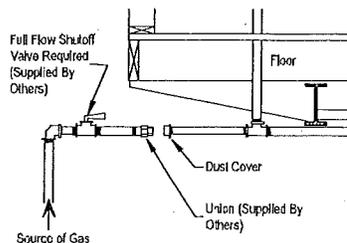

Figure 68. Gas service connection
3. **Remove cap.** Remove the protective cap from home inlet pipe and install a full flow shut-off valve at the supply inlet (Figure 68).